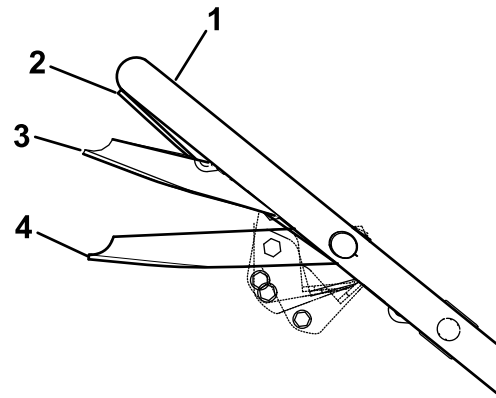

Figure 17
3. Squeeze the blade-control bar against the handle to the Run/Drive position (Figure 17).
Important: Shifting speeds while squeezing the blade-control bar against the handle in the Run/Drive position could damage the transmission. Move the blade-control bar to the Run/Shift position (Figure 17) whenever you change the ground speed.